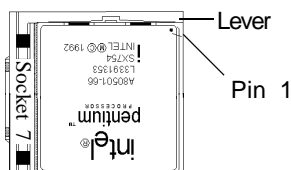

Figure 2-3 Inserting a CPU into Socket 7
2. Pull up the lever of Socket 7 so that it is perpendicular with the surface of the mainboard. Gently insert the CPU with Pin 1 at the same corner of Socket 7 that contains the end of the lever. Allow the weight of the CPU to push itself into place. Do not apply extra pressure as doing so may result in damaging your CPU. Snap the lever back into place. See Figure 2-3.